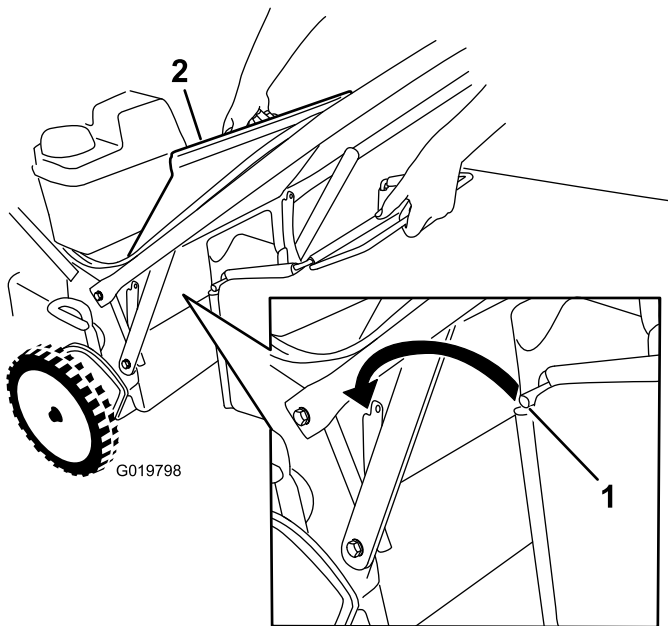

Figure 19
1. Raise and hold up the rear deflector (Figure 19).
the rod is seated at the bottom of both notches; refer to Figure 19.